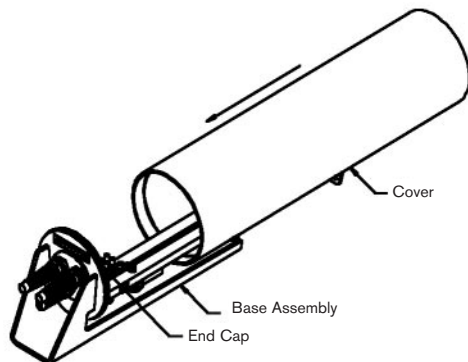

FIGURE 19 Replacing the Cover
2. Replace the cover onto the base assembly by grasping the cover and gently pushing it over the end cap and o-ring. Make sure the o-ring is not pinched. The safety cable can be routed between the cover and the base. See FIGURE 19.